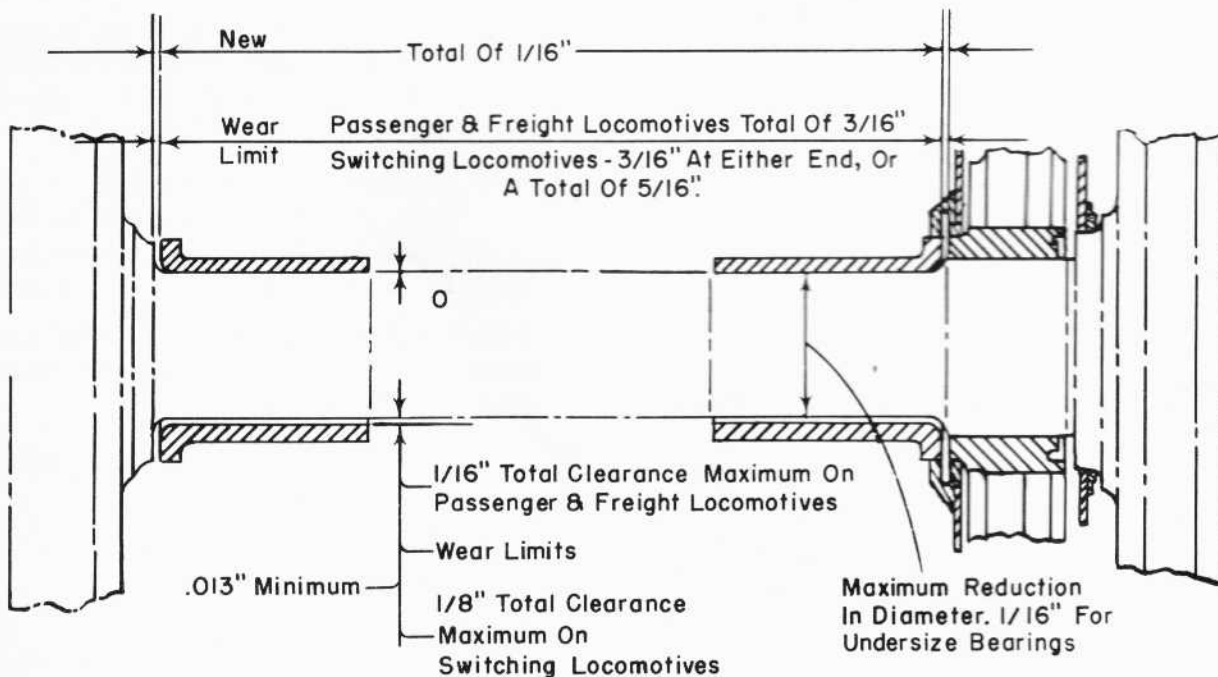

Fig. 12 - Support Bearing Clearance
The support bearings should be checked for radial and lateral clearance to make sure they do not exceed the wear limits shown in Fig. 12.
5. The radial clearance between the axle and bearing should be at least .013". Refer to Fig. 12 for other dimensions that should be checked.